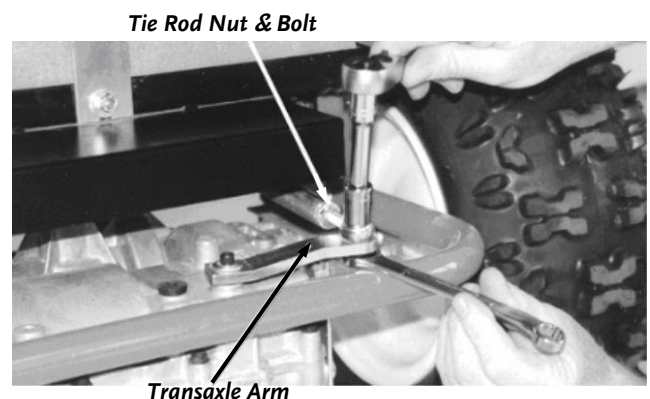

Figure 27
2. Loosen and remove the Tie Rod Nut and Bolt from the Transaxle Arm with 1/2" Wrenches (**Figure 27**) and then remove the Tie Rod from the Transaxle Arm.